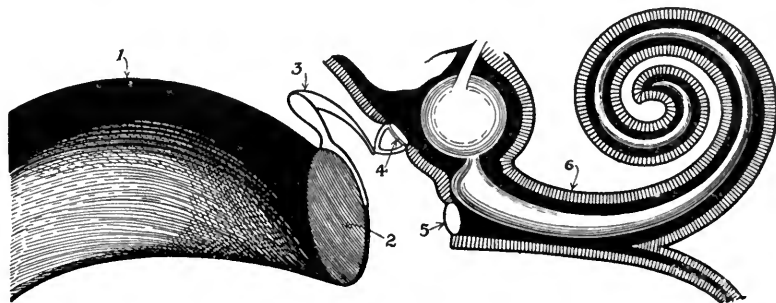

FIG. 4
The human ear is constructed in principle almost exactly like our model as will be seen from Fig. 4. In this figure we have the external ear (1) corresponding to the horn for gathering up the sound and concentrating it on the diaphragm or drumskin (2). The leverage between the drumskin and the second diaphragm in the liquid chamber is obtained by a system of three bones (3) named from their appearance, the hammer, the anvil and the stirrup. This particular form of lever is employed to prevent any unusual shock from injuring the delicate apparatus of the inner ear, since these bones are arranged so that they slip over each other at their joints if too great a motion is imparted to them. The liquid chamber is shown at (6). It consists of a bony case shaped like a snail shell and named from its appearance the Cochlea. The end of the lever system is attached to the second diaphragm known as the Oval Window (4). The third diaphragm for the purpose of allowing freedom of motion of the liquid shown at (5) is known as the Round Window. In the liquid chamber or Cochlea (6) are located the thousands of vibrating bodies of various shapes and sizes which take the place of the tuning forks in our model. The microphones of the model are replaced by nerve terminals attached to each of the vibrating bodies, each terminal being connected to the brain or measuring instrument by its own nerve fibre.
From this point of view, the extreme small size of the parts of the ear is significant as will be seen from Fig. 4 and as though Nature had not gone far enough in this direction to astonish us, she tucked into the corners the apparatus by which we balance ourselves on two feet. The smallness of the fibre which connect the vibrators with the brain is even more extraordinary. Some idea of their size may be gained from the fact that the entire cable, containing thousands of nerves, is less than  $\frac{1}{10}$  inch in diameter.